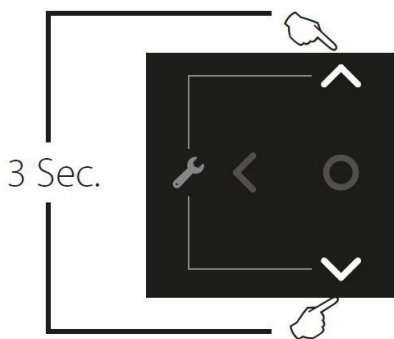

Fig. 8: Installer Button
1. To access the Installer screen, touching simultaneously the up and down soft keys for 3 seconds as shown in Fig. 8.